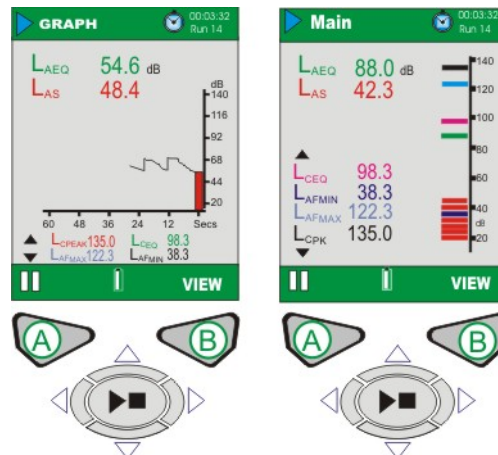

Figure 13 CEL-62XA Run Screens
**CEL-62XA (Refer to Figure 13).** The broadband values can be viewed as a bargraph on the Main screen, or as a graphical time history on the Graph screen. Pressing View key (B) toggles between Graph and Main screens.